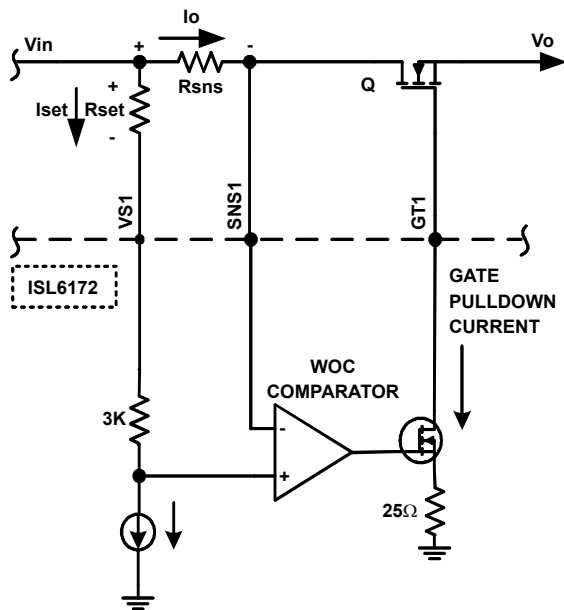

FIGURE 16. WOC OPERATION
3. Way Overcurrent (WOC) Mode: This mode is designed to handle hard shorts on the load side, which can result in very high di/dt. Typically, the current limit set for this mode is 300% of the current regulation limit. This mode uses a very fast comparator, which directly looks at the voltage drop across R_{SNS} and pulls the gate very quickly to GND (as shown in Figure 16) and immediately releases it. If the WOC is still present, the IC enters current regulation mode and the rest of the current regulation behavior follows as described earlier under current regulation mode.